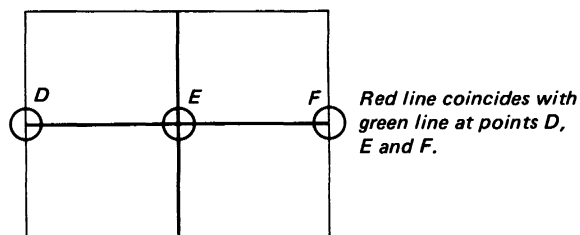

Fig. 3-36
- (12) When the red horizontal center line does not coincide with the green horizontal center line as shown in Fig. 3-36, repeat above steps (9) through (11).
- (14) Adjust RV5527 (V SKEW (R)) so that the red horizontal center line coincide with the green horizontal center line (Fig. 3-36).